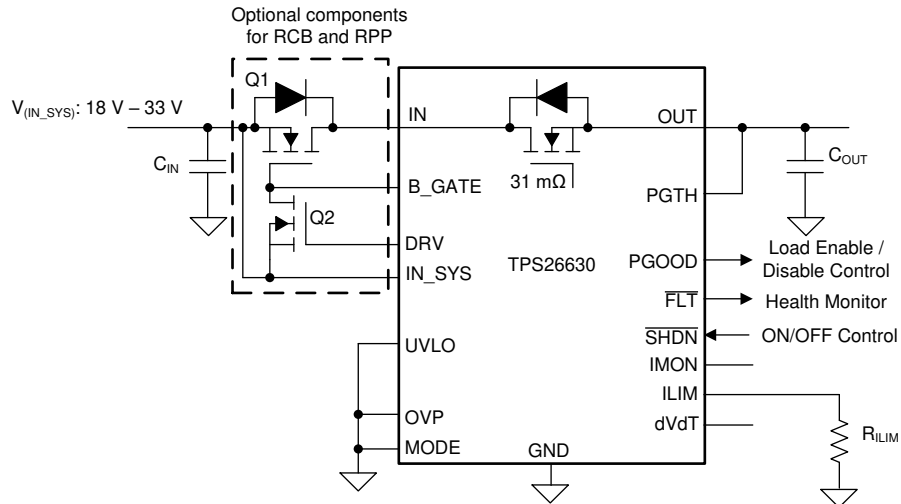

图 9-11. TPS26630 Configured for a Simple 24-V Supply Path Protection
With the TPS2663x devices, a simple 24-V power supply path protection can be realized using a minimum of five external components as shown in the schematic diagram in 图 9-11. The external components required are: an N – Channel Power FET Q1, an N – Channel signal FET Q2, and an R(ILIM) resistor to program the current limit, C(IN) and C(OUT) capacitors.